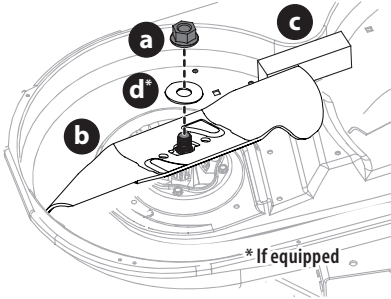

Figure 31
2. Place a block of wood (c) between the deck housing and the cutting edge of the blade (b) to help in breaking loose the hex nut (a) and washer (d)* securing the blade (b). Use a 15/16 inch wrench to loosen the hex nut (a) and washer (d)* (Figure 31).
2. When re-installing blades, be sure of the following (Figure 31):
3. Tighten hex nuts (a) to 70-90 ft-lbs (95-122 N-m) (Figure 31).